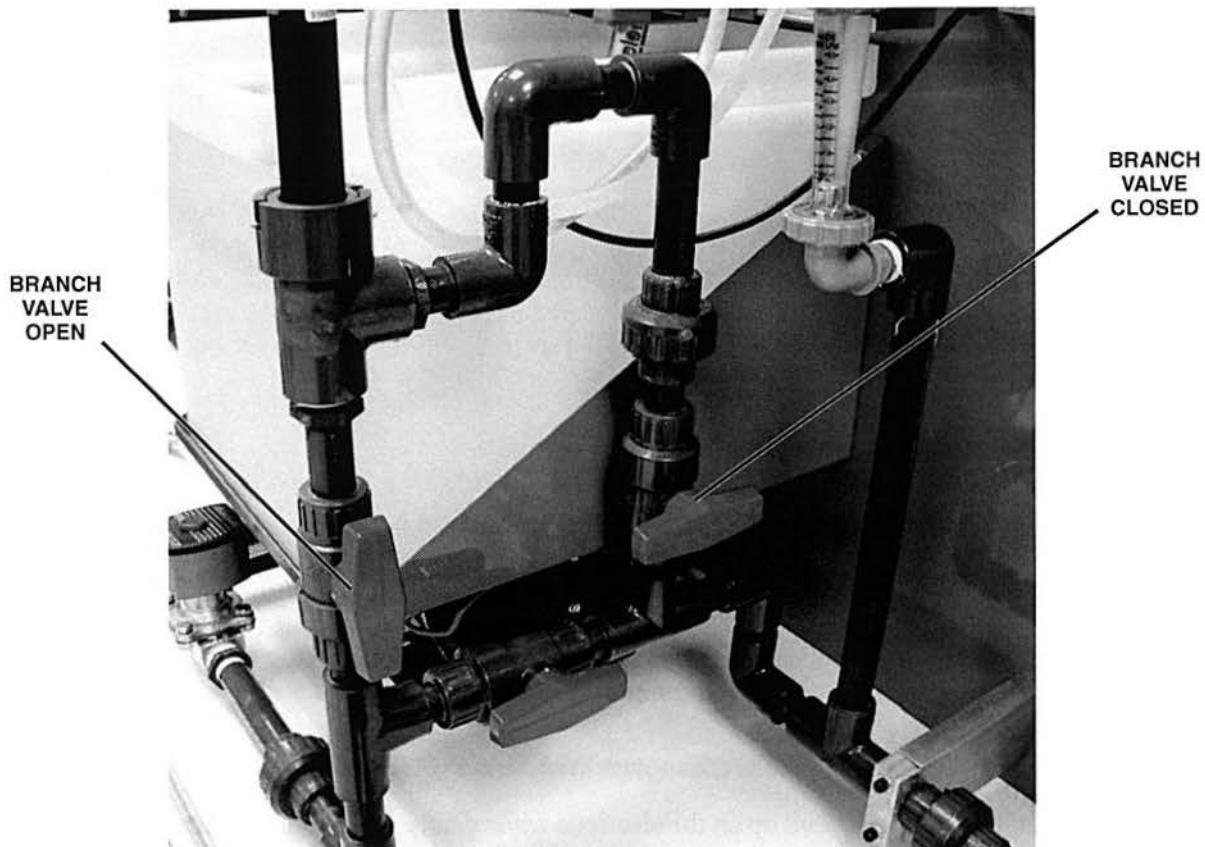

Figure 28. One Branch Valve Open and the Other Closed
- A. Open the branch valve directly under the electrode fitting and shut the other branch valve, as shown in figure 28.